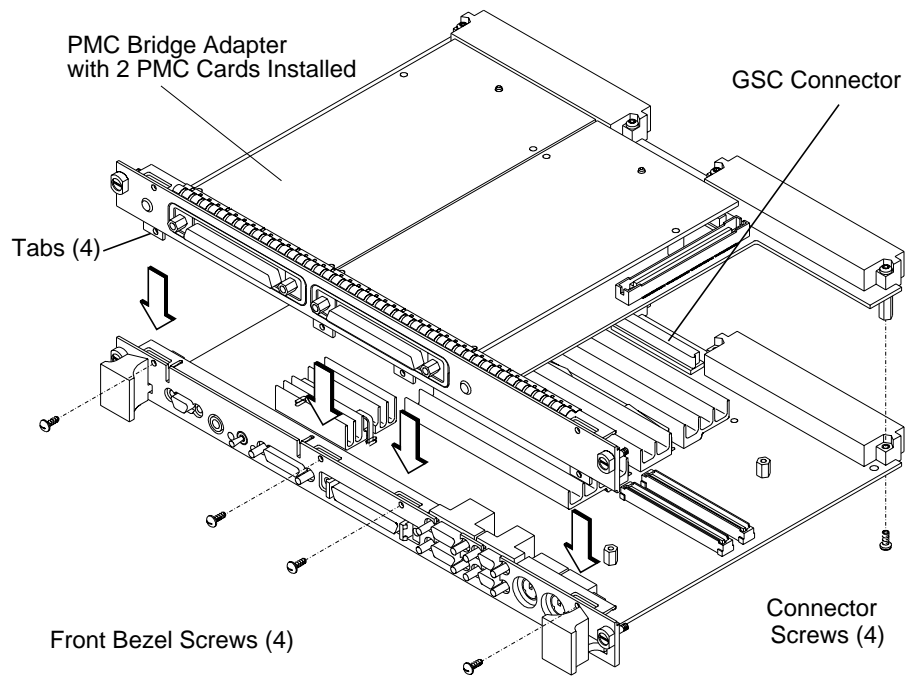
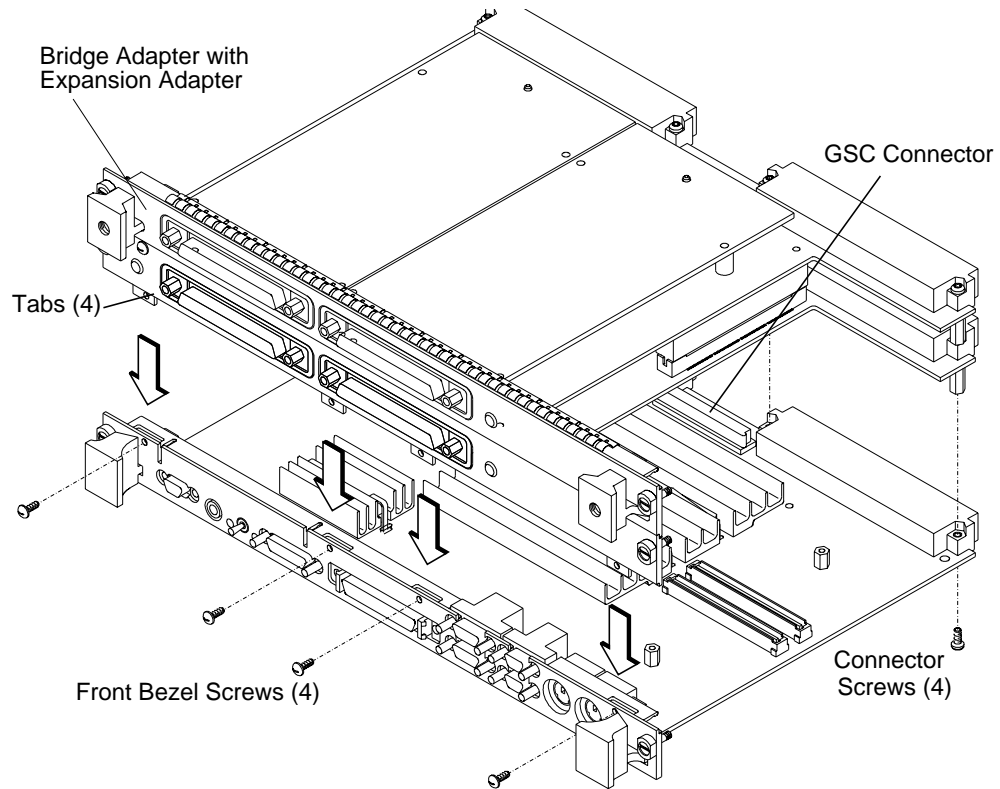

Figure 9
Figure 10 Installing the Bridge Adapter with the Expansion Adapter onto the Board Computer
14 The bridge adapter should **NOT** be assembled to the board computer. If it is, remove it by reversing the steps shown in Figure 9.
- 18 Install the PMC bridge adapter (as shown in Figure 9) or the bridge adapter with expansion adapter (as shown in Figure 10) onto the board computer. Align the GSC connector first, then the tabs on the front panel, and push the boards together. There are four screws that secure the front bezel, and four screws that secure the VME connectors.